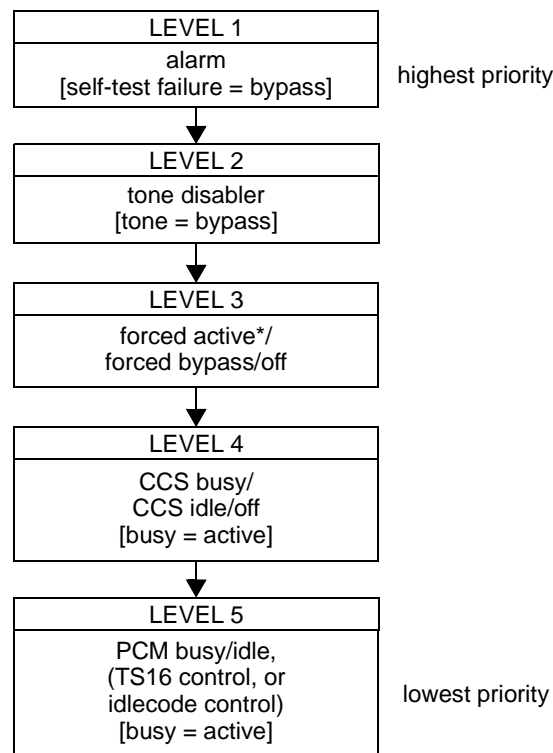

Figure 2-2 Active/bypass decision hierarchy
- 2.38 Echo cancellation control is determined from two sources: the PCM line and the user configured canceller state. The system performs echo cancellation on channels in the active state. Echo cancellation is not performed on channels in the bypass state. A channel's active/bypass state is determined by the decision hierarchy shown in Figure 2-2. Table 2-3 provides examples of how higher level control overrides the lower level active/bypass control.
LEVEL 3: Forced Active*/Forced Bypass (*see Important statement below Figure 2-2)
Note: *See forced active mode **Important** statement below Figure 2-2.
Note: This table reads from left to right. Each column corresponds to a level in the decision hierarchy chart shown in Figure 2-2. The last column on the right is the cancellation state of the channel.